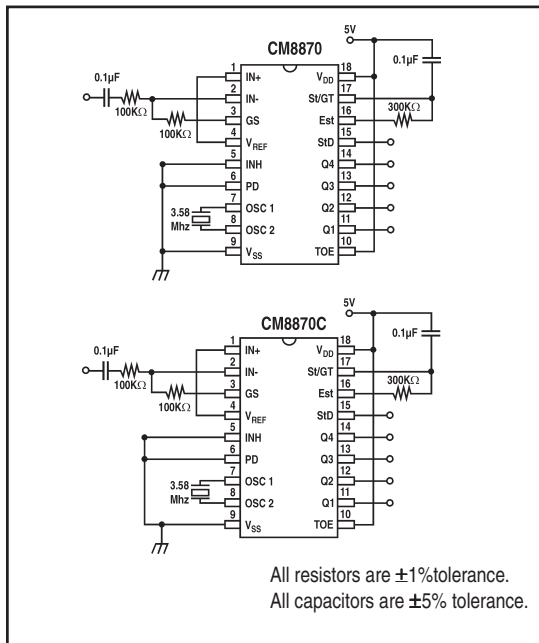
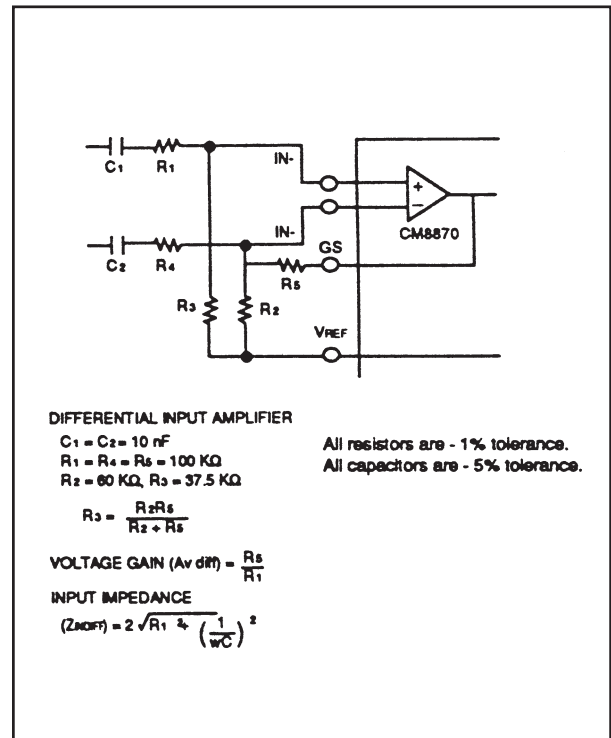

Figure 1.
Figure 6. Differential Input Configuration
- Referenced to Figure 1. Input DTMF tone level at -28 dBm.
The value of t_{DP} is a parameter of the device and t_{REC} is the minimum signal duration to be recognized by the receiver. A value for C of 0.1 uF is recommended for most applications, leaving R to be selected by the designer. For example, a suitable value of R for a t_{REC} of 40 milliseconds would be 300K. A typical circuit using this steering configuration is shown in Figure 1. The timing requirements for most telecommunication applications are satisfied with this circuit. Different steering arrangements may be used to select independently the guardtimes for tone-present (t_{GTP}) and tone absent (t_{GTA}). This may be necessary to meet system specifications which place both accept and reject limits on both tone duration and interdigit pause.
In a single-ended configuration, the input pins are connected as shown in Figure 1, with the op-amp connected for unity gain and VREF biasing the input at $\frac{1}{2} V_{DD}$. Figure 6 shows the differential configuration, which permits the adjustment of gain with the feedback resistor R5.